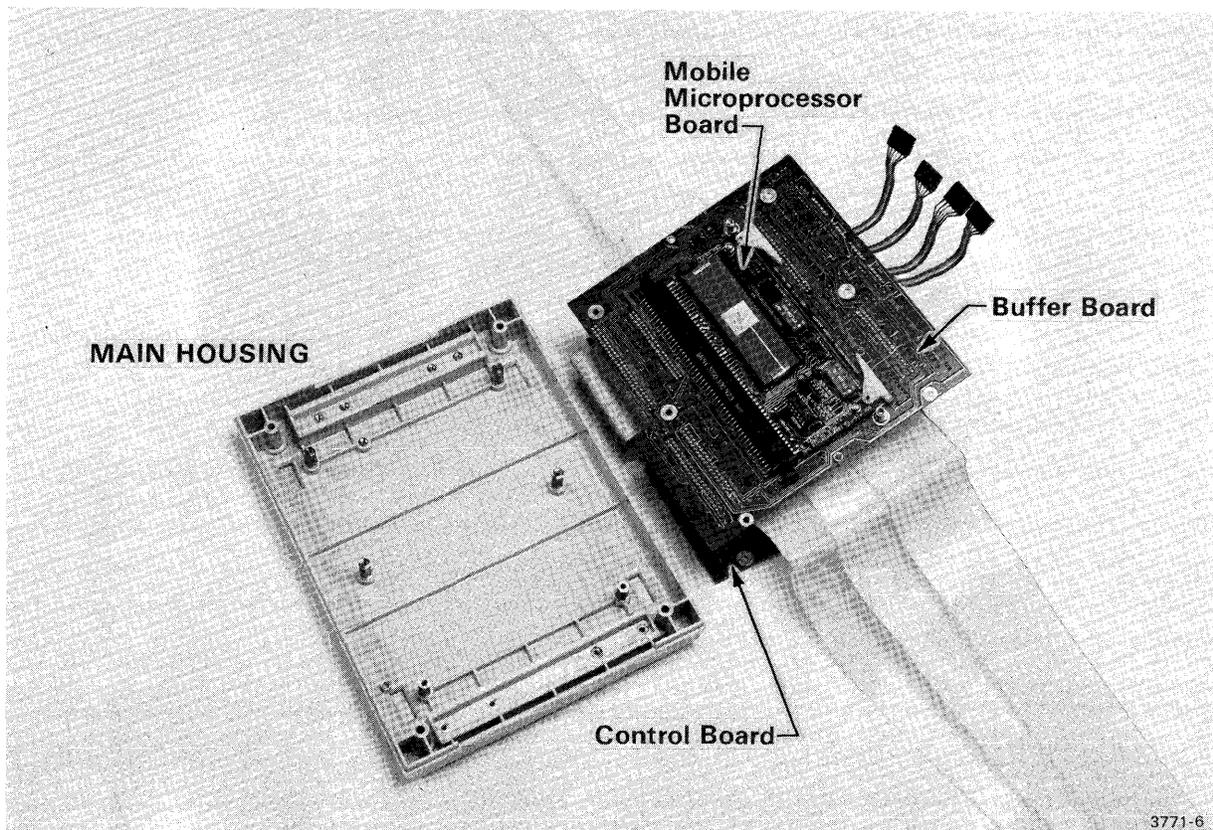

Fig. 2-3. Access to Mobile Microprocessor board.
10. Lift the Buffer board and turn it over to expose the Mobile Microprocessor board (refer to Fig. 2-3).